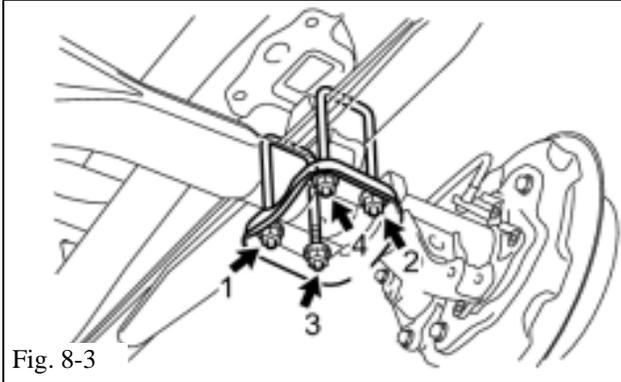

Fig. 8-3
- (1) Tighten the nuts in the order shown. (Fig. 8-3)
- (2) Install the U bolts so that the lengths of the 4 ends under the spring seat are the same.